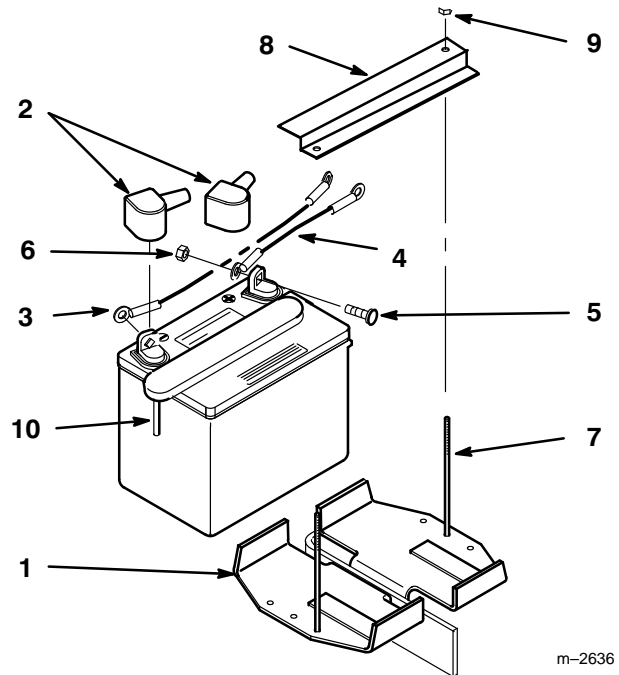

Figure 8
4. Position battery onto holder with terminal posts away from the engine (Fig. 8).
6. Install the positive (red) battery cable to positive (+) battery terminal and the negative battery cable to the negative (-) battery terminal. Secure cables with (2) 1/4 x 3/4" (19 mm) carriage bolts and 1/4" locknuts.
7. Mount battery to holder with (2) support rods, a battery clamp and (2) 1/4" locknuts. Position support rods in mounting holes (Fig. 8). Tighten locknuts so battery is held securely in position and will not slide. DO NOT OVERTIGHTEN.